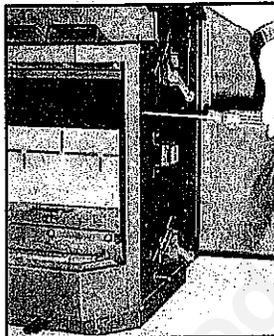

FIG. 1
1. Metal refractory brick: Remove 4 screws (2 per side) beneath the side panels at front of stove. See Fig. 1.
Ceramic Brickset: Remove 2 screws on retainer brackets (1 per side), located as shown in Fig. 1. Remove side bricks and then rear bricks. Handle carefully.